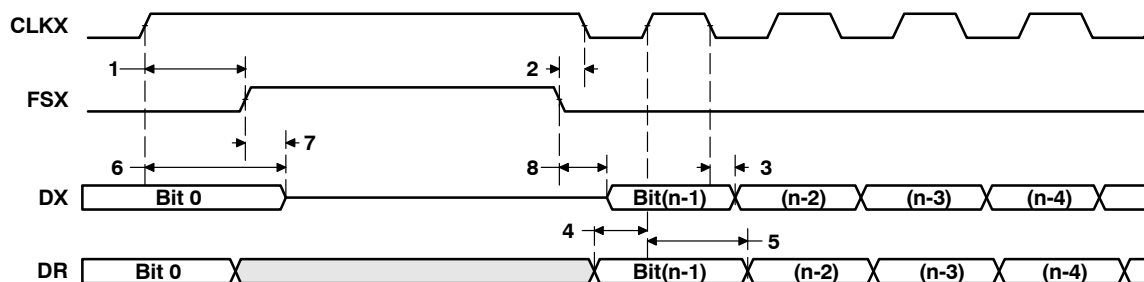

Figure 37. McBSP Timing as SPI Master or Slave: CLKSTP = 10b, CLKXP = 1
**timing requirements for McBSP as SPI master or slave: CLKSTP = 10b, CLKXP = 1†‡ (see Figure 37)**
**switching characteristics for McBSP as SPI master or slave: CLKSTP = 10b, CLKXP = 1†‡ (see Figure 37)**